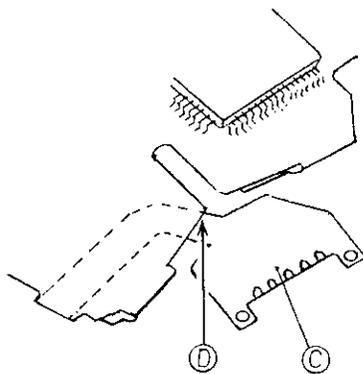

Fig.92
At this time, pass the part (C) of the FPC through the hole (D). (See Fig.92)